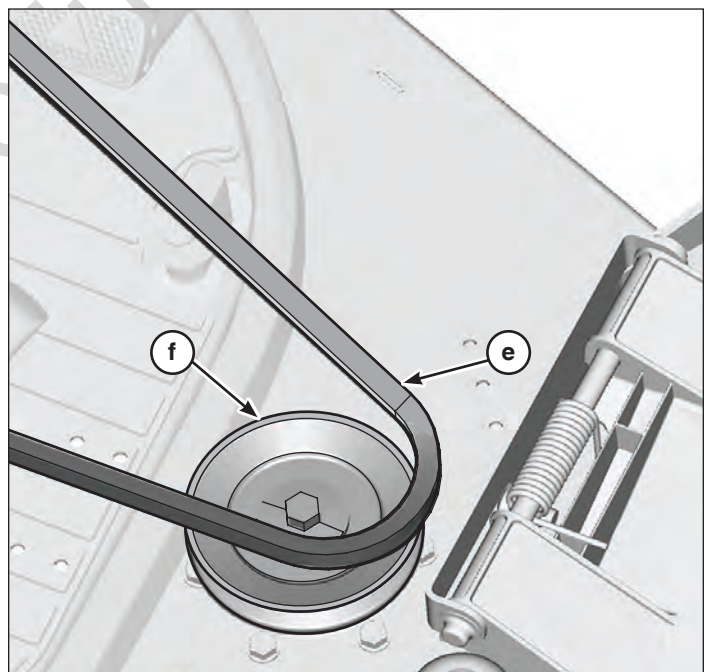

Figure 3
4. Pull up on belt (e, Figure 3) and remove from pulley (f),